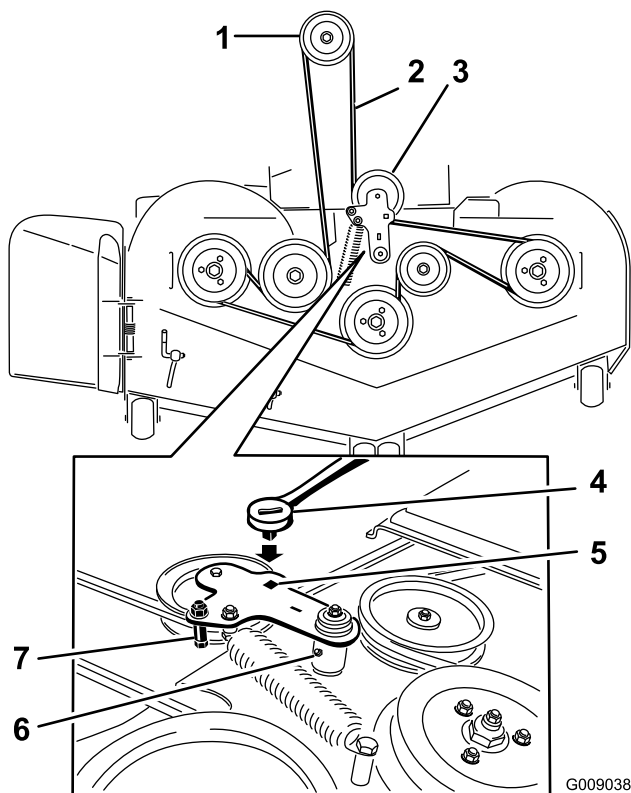

Figure 76
5. Use a ratchet in the square hole in the idler arm to remove tension on the idler spring (Figure 76).
7. Remove the belt guide on the spring loaded idler arm shown in Figure 76.
9. Install the new belt around the mower pulleys and the clutch pulley under the engine (Figure 76).
10. Install the belt guide on the idler arm shown in Figure 76.
11. Using the ratchet in the square hole, install the idler spring (Figure 76).